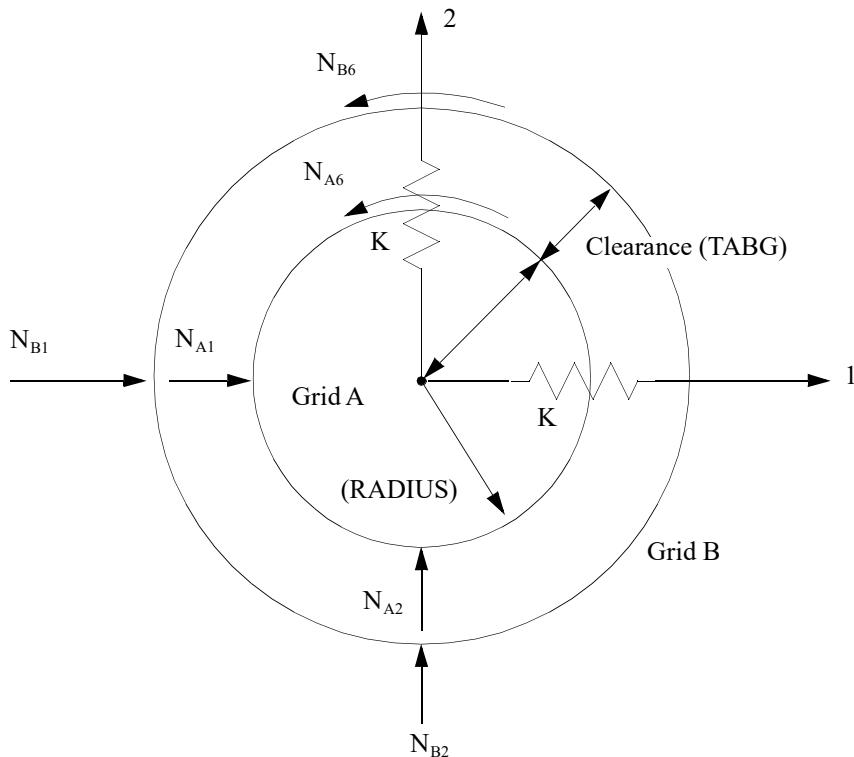

Figure 9-115 Radial Gap Orientation and Nonlinear Load Sign Conventions
8. In the underlying equations, a positive coefficient of friction is consistent with counter-clockwise shaft rotation from axis 1 towards axis 2 (anti-clockwise). A negative coefficient of friction is consistent with clockwise shaft rotation from axis 2 towards axis 1 (clockwise). See Figure 9-115.
9. Nonlinear forces for the grids referenced on the NLRGAP can be output with the NLLOAD Case Control command. See Figure 9-115 for the sign conventions.